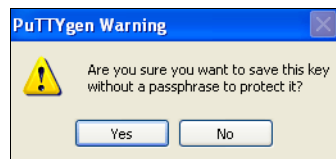

Figure A-5 Confirm the security warning
- You are prompted with a warning message (Figure A-5). Click **Yes** to save the private key without a passphrase.